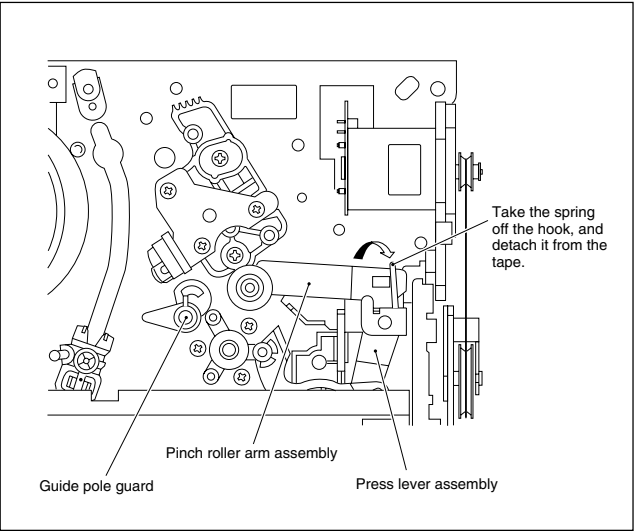

Fig. 2-1-3d
- (3) Take the spring of the pinch roller arm assembly off the hook of the press lever assembly, and detach it from the tape. (See Fig.2-1-3d.)
- (4) In the same way as in the electrical failure instructions in 2.1.3-1(4), remove the top guide.
- (5) Raise the cassette tape cover. By keeping it in that position, draw out the cassette tape case from the cassette holder and take out the tape.
- (6) By hanging the pinch roller arm assembly spring back on the hook, take up the slack of the tape into the cassette.